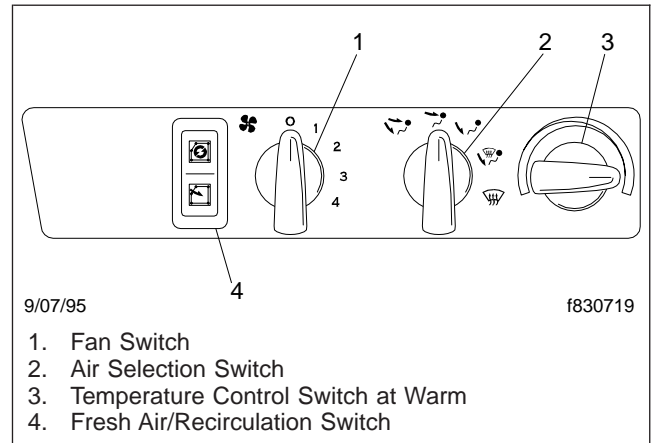

Fig. 4.10, Heating Settings
1. With the engine at operating temperature, move the temperature control switch all the way clockwise for heat. See Fig. 4.10.